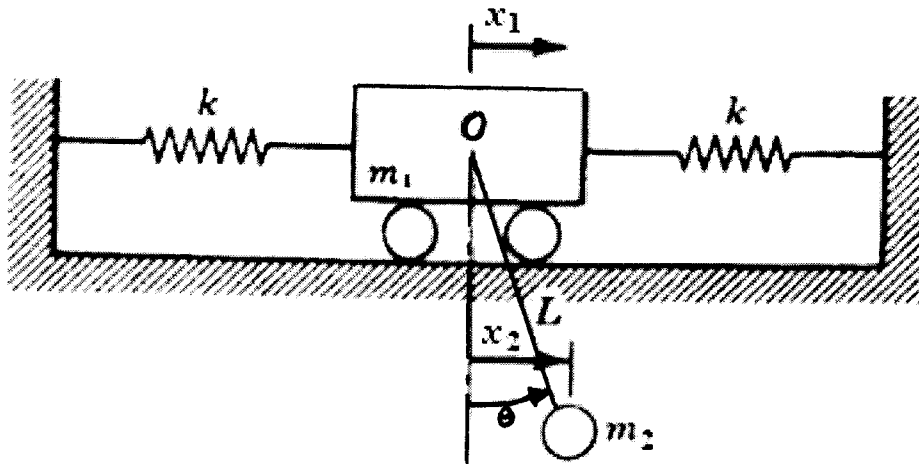

Figure Q1(b)
- (b) A two degree of freedom system which consists of mass m_1 and m_2 are displaced with small linear displacement x_1 and small angle of oscillation θ as shown in **Figure Q1(b)**. The linear displacement, $x_2 = x_1 + L \sin \theta$ where L is the length of the pendulum.
- (c) A horizontal force, $F \sin \omega t$ is applied to the mass m_1 of the system shown in **Figure Q1(b)** and assume $x = X \sin \omega t$ and $\theta = \Theta \sin \omega t$. If m_1 is stationary, determine the frequency, ω of this system. Take $g = 9.81 \text{ m/s}^2$ and $L = 1.5 \text{ m}$. (8 marks)